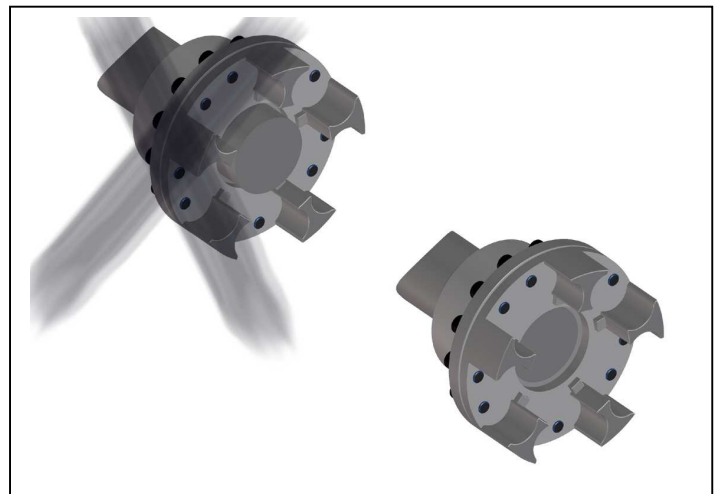

Fig. 4
- Mount the hubs in such a manner that the shaft end is flush with the inner bore opening (Fig. 4). Protruding shaft ends prevent radial mounting and dismounting of the claw rings. Observe deviant agreements, which may exist!